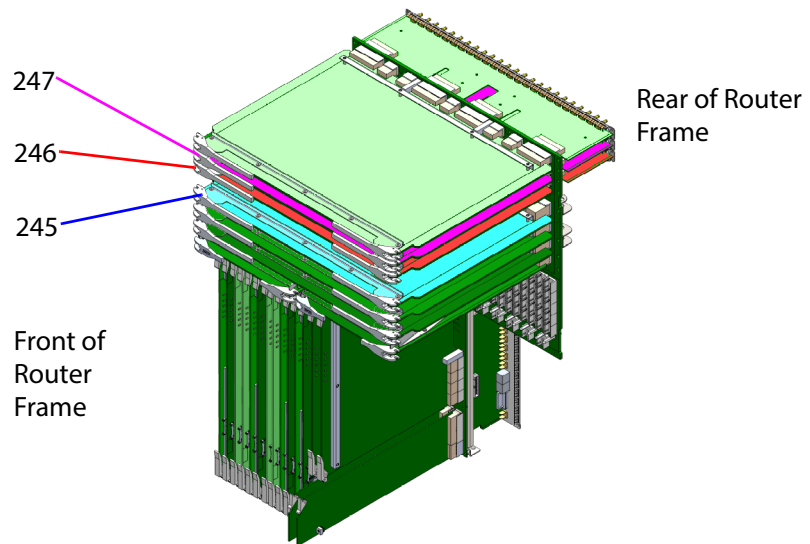

Figure 24 Sirius 830 Modules
- Figure 24 and Figure 25 for Sirius 830,